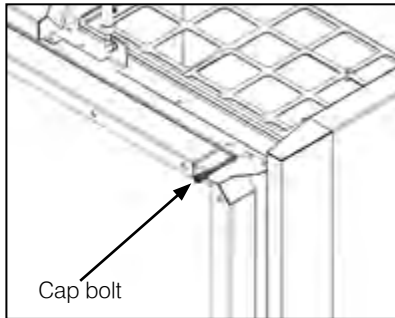

Figure 10-7: Location of 10mm cap bolt
- Using a 8mm Allen key, undo and remove the 10mm cap bolt from the top left corner of the side pellet store. Refer to Figure 10-7. Keep this cap screw for re-fitting later.